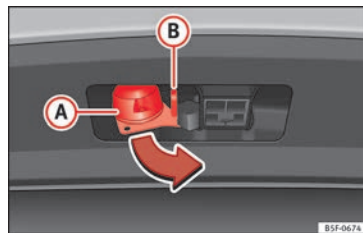

Fig. 237 Turn the 13-pin connector
- Grip the 13-pin connector at area **(A)** and remove it in the direction of the arrow **» Fig. 237**.
- Grip the 13-pin connector at area **(A)** and insert it in the opposite direction to the arrow **» Fig. 237**.
The safety lug **(B) »» Fig. 237** is used to hook up the trailer's retainer cable.